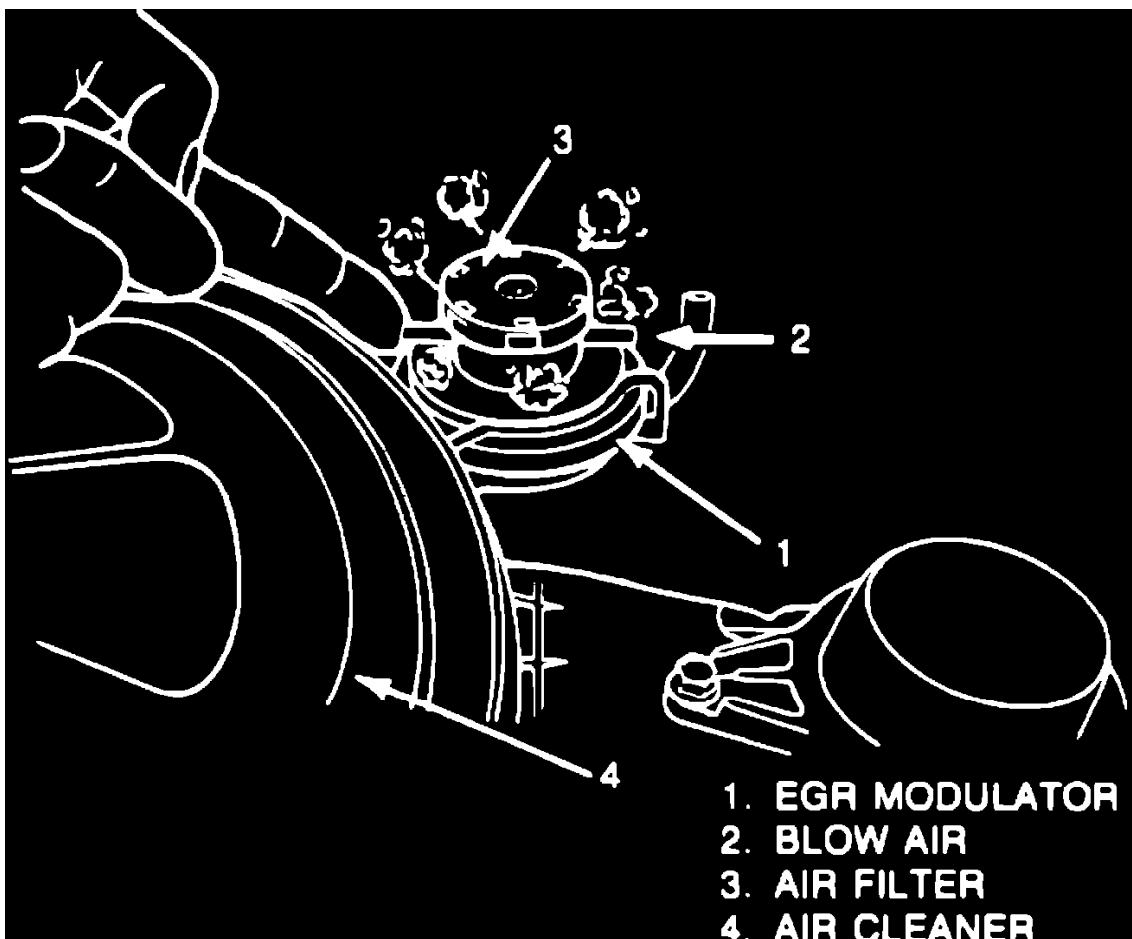

Fig. 17 Testing EGR modulator
2. With engine off, disconnect 2 vacuum hoses from EGR modulator and plug nozzle. Blow air into other nozzle and check that air escapes freely through filter, **Fig. 17**.